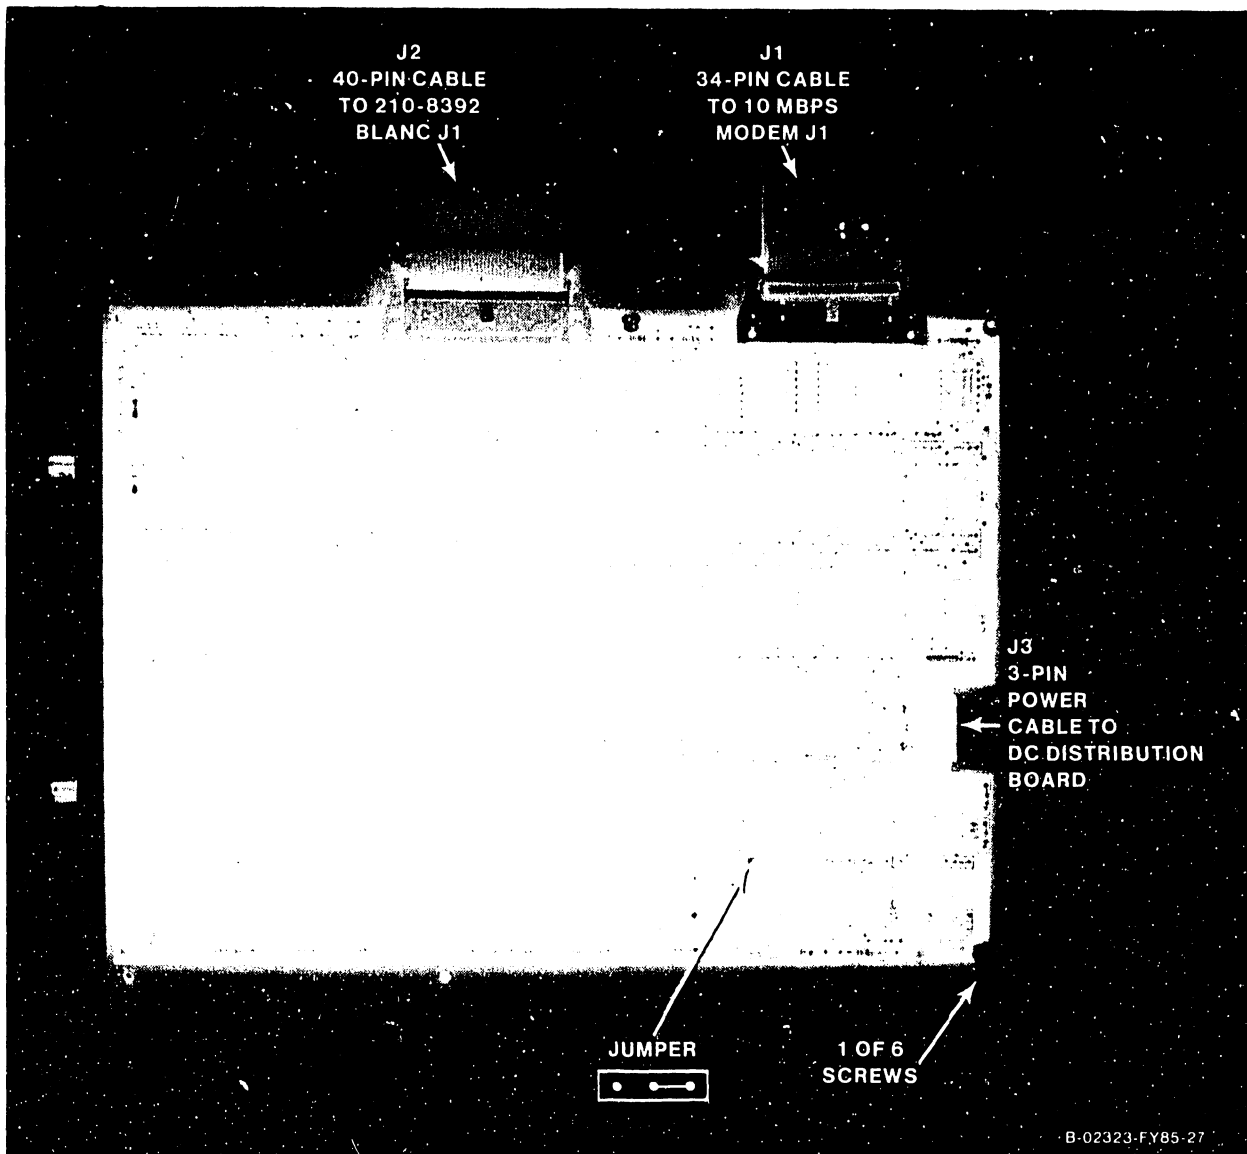

Figure 5-38. 23V79 CIU CAB Board
3. The CIU CAB board (figure 5-38) is mounted on top of the 10 megabit per second (MBPS) duobinary modem. The modem and the CAB board are located behind the CIU connector panel at the rear of the mainframe. Refer to figure 3-12. Disconnect all cables from the CAB board. It may be necessary to remove the CIU connector panel from the back panel to allow access to the rear power cable on the CAB board.
5. After checking the 3-position jumper shown in figure 5-38, install the new CAB board.
3. The 10 megabit per second (MBPS) duobinary modem (figure 5-39) has the 210-8391 CIU CAB board (figure 5-38) mounted on top. The modem and the CAB board are located behind the CIU connector panel at the rear of the mainframe. Refer to figure 3-12. Disconnect all cables from the modem. It may be necessary to remove the CIU connector panel from the back panel to allow access to the CAB and modem.